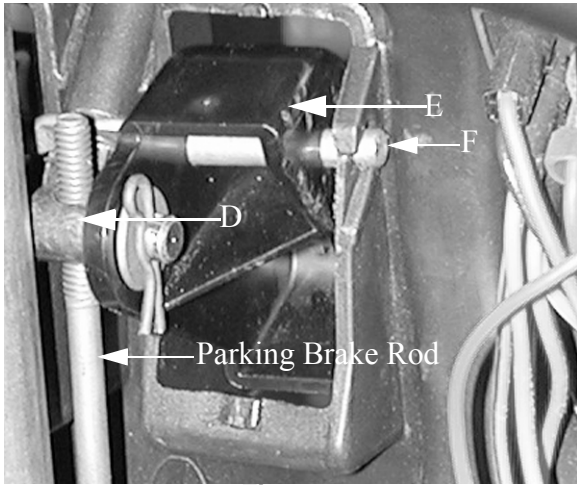
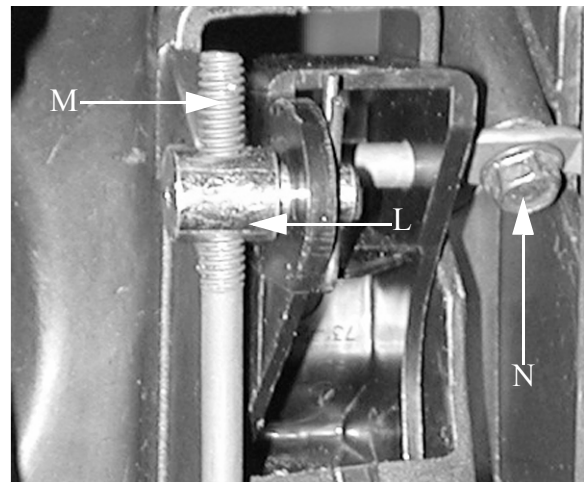

Figure 4
Figure 7
5. Remove the washer and cotter pin holding the ferrule (D) to the parking brake control lever (E). (Figure 4)
6. Remove the screw (N) (Figure 7) that fastens the Brake/Cruise pivot rod (F) (Figure 4) to the dash and then remove the pivot rod. *The pivot rod will be reinstalled exactly as it was removed once the cruise control lever is attached.*
8. Reinstall the parking brake rod to the parking brake control lever with the ferrule, washer, and cotter pin. (Figure 4)
12. Thread the ferrule (L) onto the top of the cruise control rod (M) and insert it through the cruise control lever attaching it with the washer and cotter pin. (Figure 7)